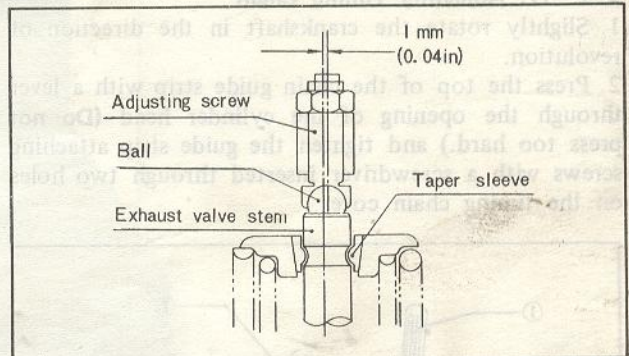

Fig. 1-70 Offset of exhaust rocker arm
4. Move the rocker arm supporters and offset each of the exhaust side rocker arms 1 mm (0.04 in) from the valve stem center as shown in Fig. 1-70.